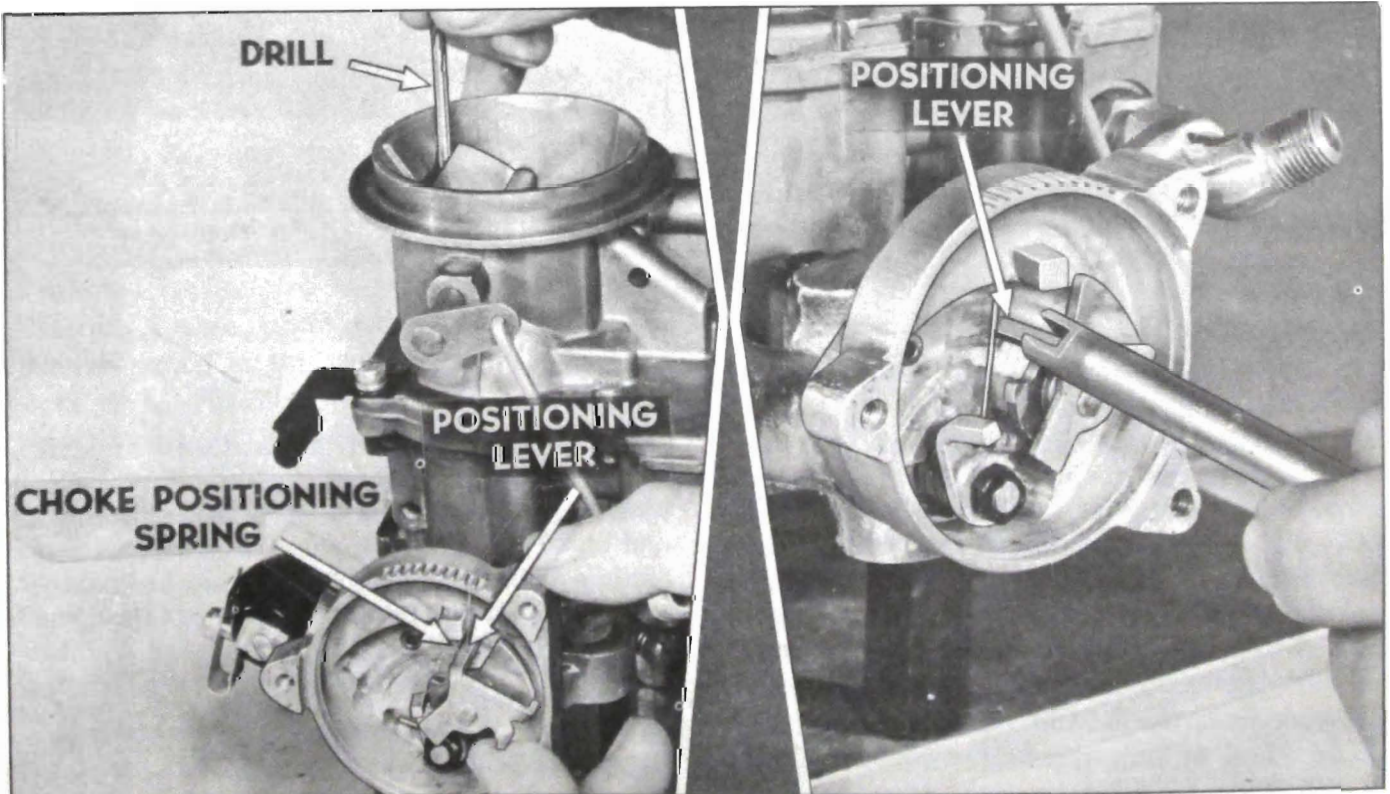

Figure 3-70—Choke Positioning Lever Adjustment
9. Close choke valve with light pressure upward on thermostat spring lever until positioning spring lever just contacts choke positioning spring. Then measure opening between upper edge of choke valve and wall of air horn using a No. 21 drill. If choke clearance is wrong, bend choke positioning lever as required to correct using needle-nose pliers. See figure 3-70.